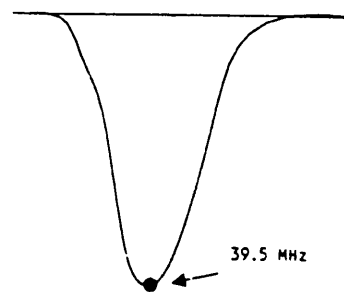

Fig 3.
Alignment Step (see fig. 3)
- 2: Adjust T105 to obtain maximum amplitude of response curve at 39.5MHz as in fig. 3.